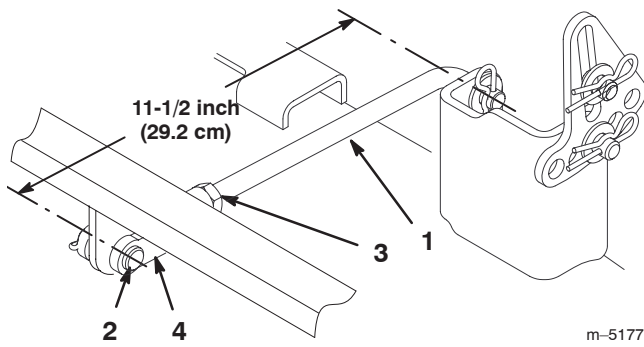

Figure 39
6. Measure the length of the rear trunion rod (Fig. 39). If the rod length is not 11-1/2 inch (29.2 cm), remove the clevis pin and cotter pin from the end of the rod (Fig. 39), loosen the jam nut, and turn the yoke until the 11-1/2 inch (29.3 cm) dimension is obtained. Then secure the yoke with the clevis pin and cotter pin. Repeat this procedure on the opposite side of the mower.
12. When the front-to-rear blade slope is correct, tighten the jam nuts (Fig. 39 and 41).